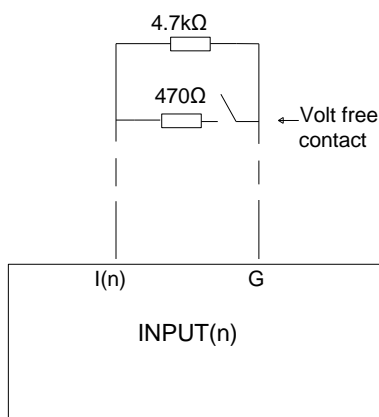

Fig. 2
- 1) Fig.2 shows the system connection with volt-free normally open input.